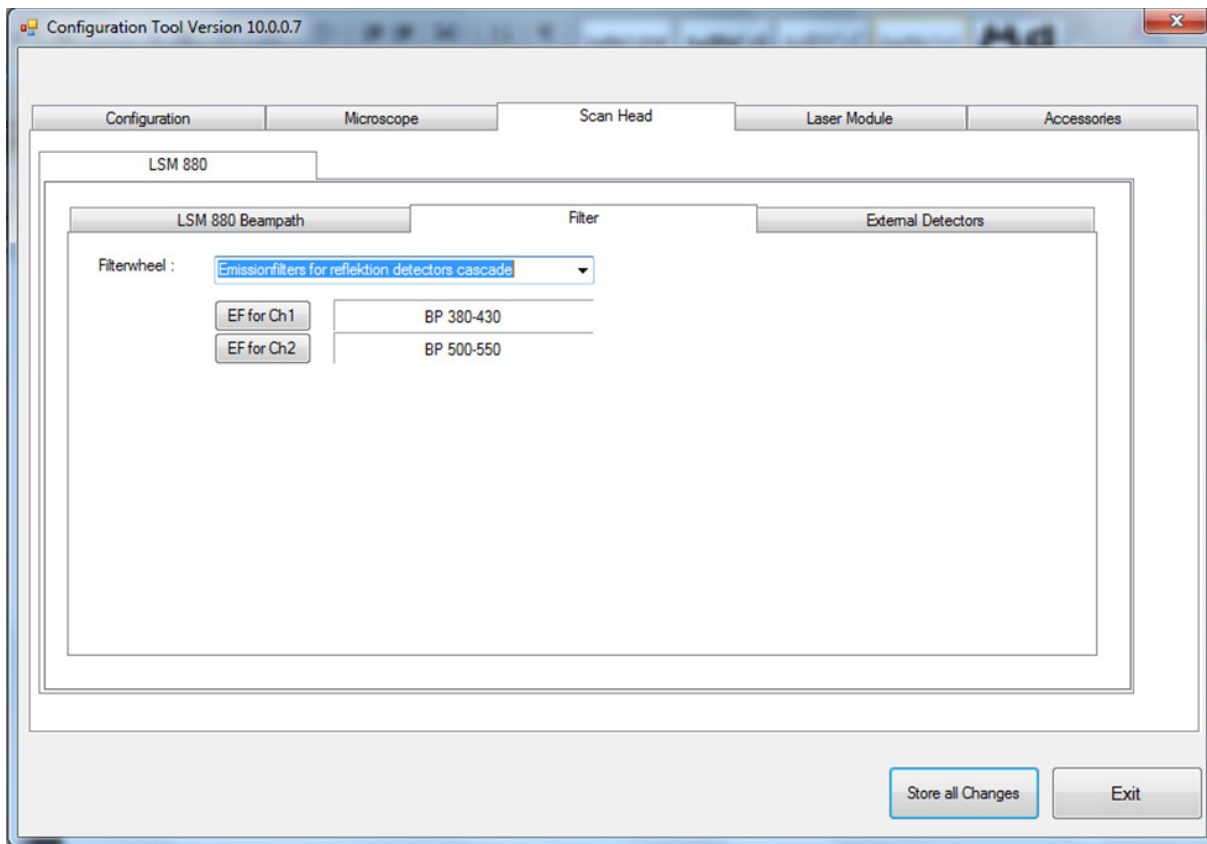

Fig. 12 Configuration Tool with tabs selected for access to filter settings
- Within the appearing window (Fig. 12) choose the tabs **Scan Head, LSM 880, Filter**.
After selecting the "Filterwheel", the current filters are indicated each with a button next to it referring to the detection channel it is effective for (Fig. 12).